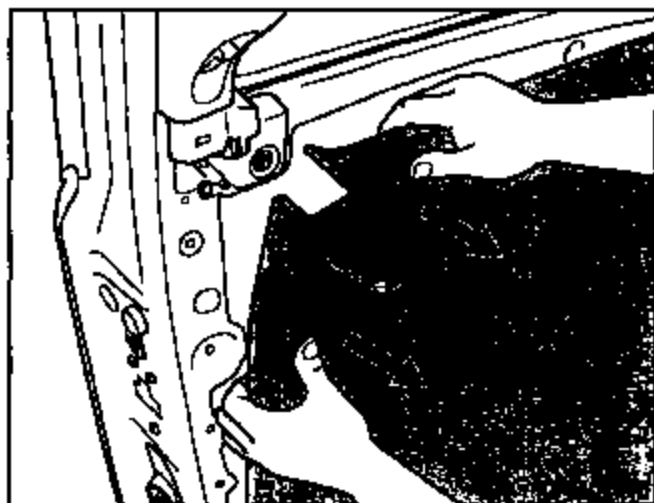

Figure J15
- b. Carefully pull out on the Inner Door Panel to release all remaining securing clips (see Figure J15).